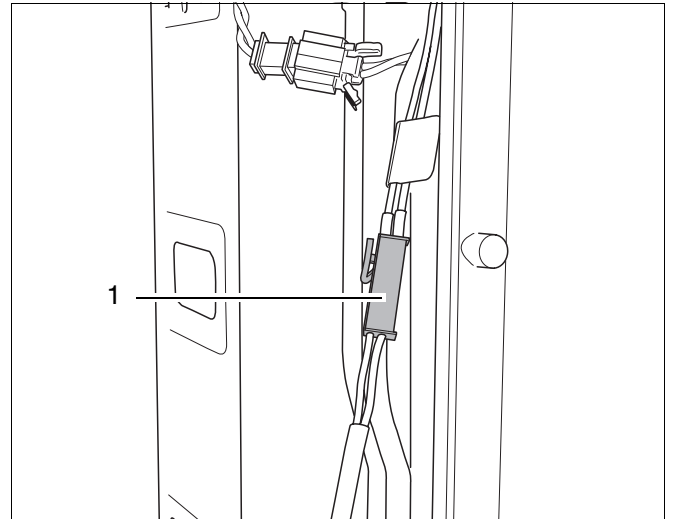

fig. 94 Disconnect plug of ignition unit
- Disconnect the plug (→ fig. 94, item 1) of the ignition unit.
- Disconnect the plug of the ignition unit (→ fig. 94, item 1).